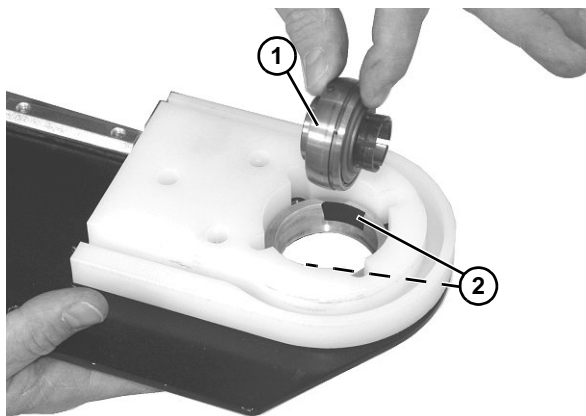

Figure 78
1. Turn bearing (**Figure 78, item 1**) to align with slots (**Figure 78, item 2**) in bearing housing. Then remove bearing.